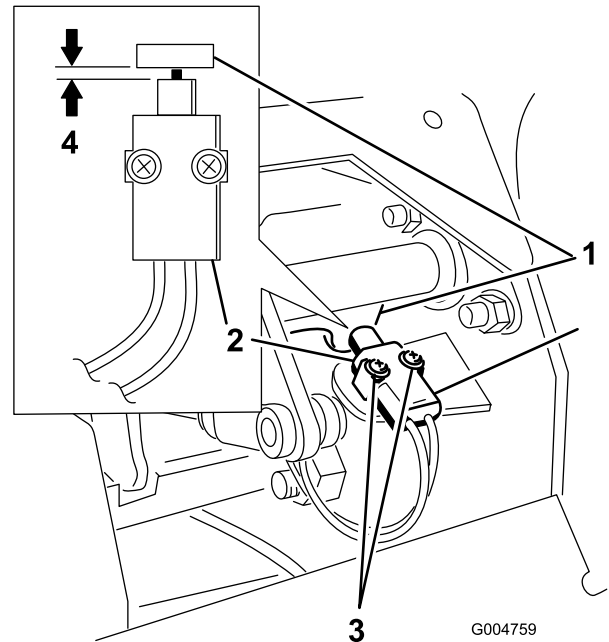

Figure 55
4. Move the switch toward the tab on the brake shaft until the distance between the tab and switch body is 0.015 to 0.045 inch (0.4 to 1 mm) (Figure 55).